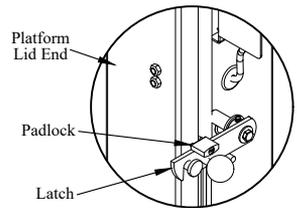

Figure 1
Step 1. To open the platform, go to the driver's side of the Tommy Gate and unsecure by lifting the latch off the platform pin and rotate the latch away from the platform. Proceed to the passenger's side of the Tommy Gate and remove the latch padlock (Figure 1). Now lift the passenger's side latch off the platform pin with one hand while holding the top of the platform with your other hand. Now pull the platform open and step away from the platform as it opens.
- Step 9. When the platform is raised to the level of the vehicle's floor and the load is removed from the platform, close the platform and folding extension (if so equipped) by hand. The latch on the passenger's side will secure itself. Go to the driver's side and lift the latch and hook it onto the pin of the platform. Install the padlock (Figure 1).